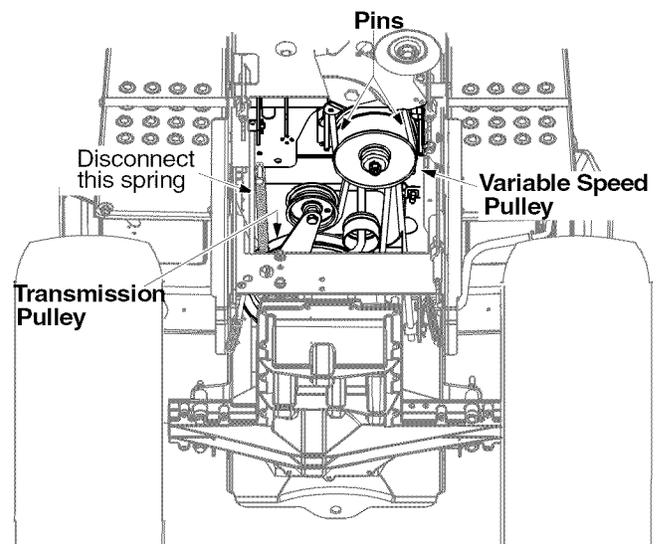

Figure 30
- Remove the two pins which act as belt keepers by the variable speed pulley. For the location of the variable speed pulley, see Figure 30 .
- Disconnect the spring which secures the idler pulley to the frame. See Figure 30 .